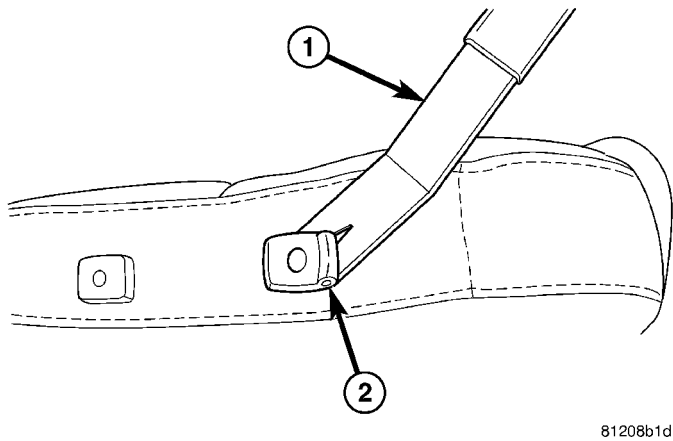

Fig. 19 REMOVING HEADREST SLEEVE
- (1) Remove radiator closure (Refer to 23 - BODY/ EXTERIOR/CLOSURE PANEL - REMOVAL).
- (2) Remove front fascia (Fig. 19) (Refer to 13 - FRAME & BUMPERS/BUMPERS/FRONT FASCIA - REMOVAL).
(4) Using trim tool, remove headrest sleeve(s) (Fig. 19).